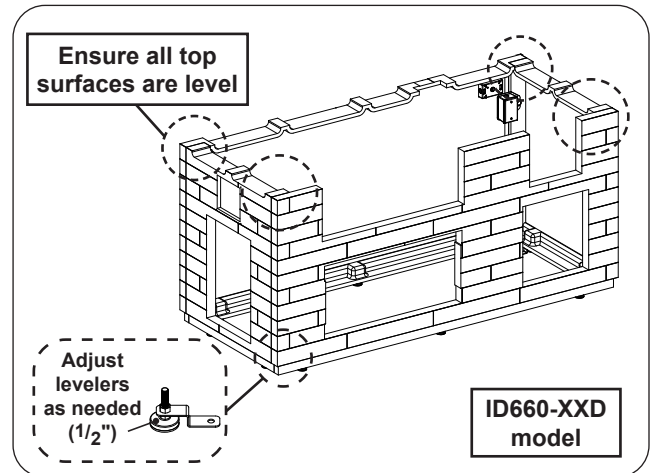

Fig. 9-2 Level assembly
1. Use a level to ensure the top surfaces of the assembly are level. The levelers at the bottom of the island may be adjusted as needed with a  $1/2$ " open end wrench. See Fig. 9-2.